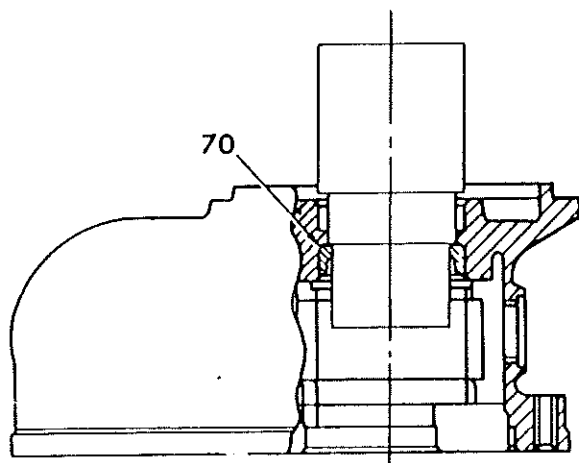

Figure 405. Pressing Outer Race Out of Housing
- B. Place magneto housing (50), mounting flange up, on base plate of an arbor press. Insert the 11-6924-1 Pressing Tool through outer race of bearing (70, figure 405) until it bottoms as shown. Press outer race out and discard.
- C. Record magneto type and part number. Remove and discard nameplate (52).
- D. Using CG40-8 collar, CG40-4 expander rod and arbor press, remove bearing (64) outer race from distributor housing (48).